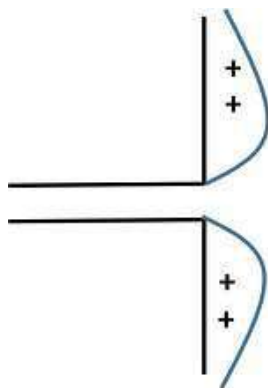

Fig 1
- Fig 1 shows the dipole when the charges induced are in positive half cycle. Now the electrons tend to move towards the charge.